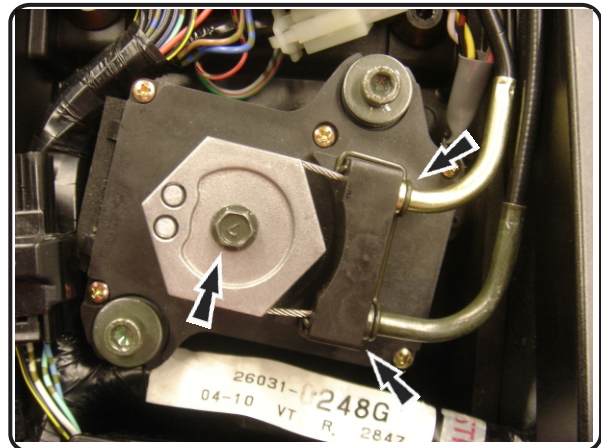

Fig. 10
- 10 Disconnect exhaust valve cables from exhaust valve actuator (electric servo motor, see Fig. 10) and remove hexagonal disc.